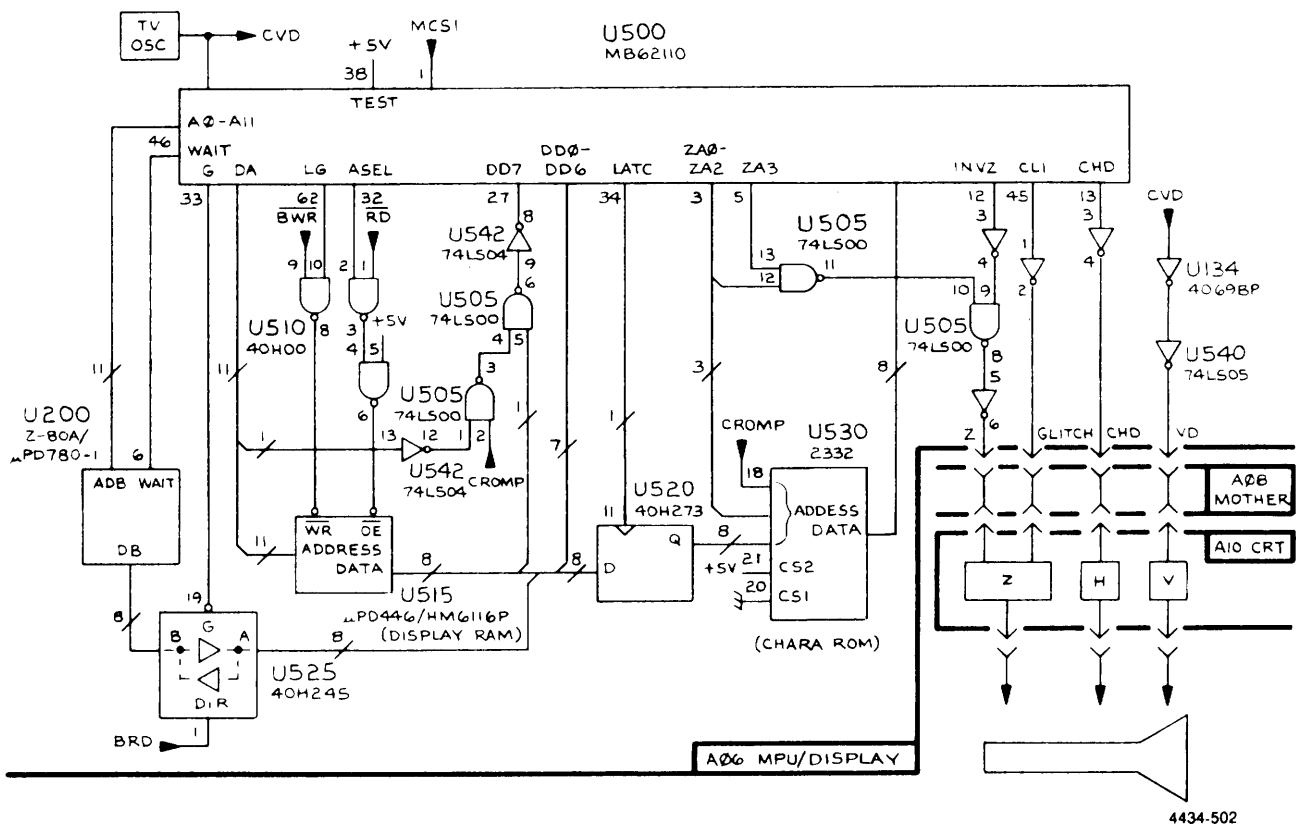

Figure 7-2. 318 CRT calibration and check schematic.
**Description:** Refer to Figure 7-2. The CRT displays 32 characters by 20 lines of data from the Display RAM U515 (16 K-bits static CMOS RAM, uPD446/HM6116P) on the A06 MPU/Display board. Each character in the CRT display uses two bytes of data, consisting of one selection code followed by one character code. A total of 1280 bytes of the Display RAM are used, ranging from address E800 to ECFF.